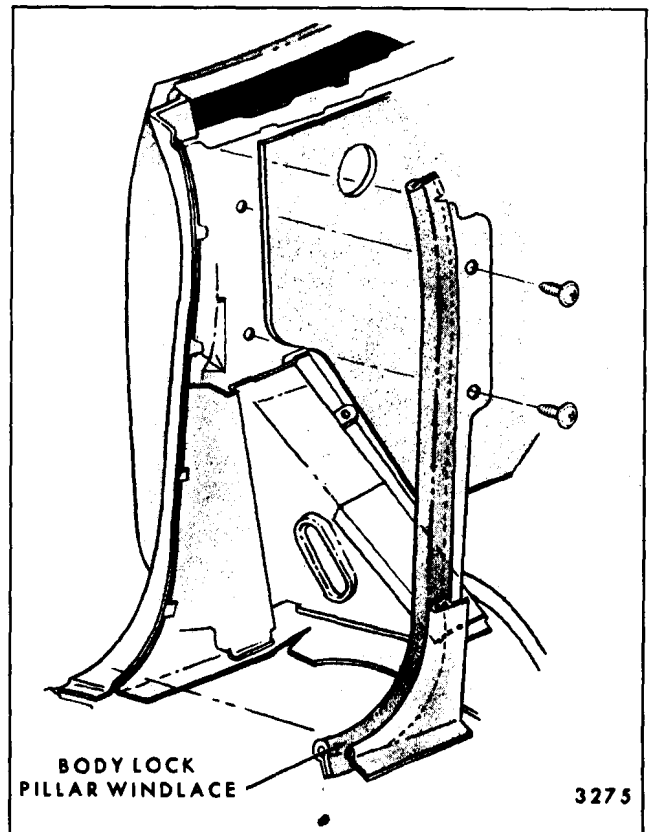

Fig. 13-29-Body Lock Pillar Windlace - "A" Styles
2. On "A" styles, remove windlace attaching screws (Fig. 13-29) and remove windlace. The windlace is sewn to a foundation board and is installed as a separate assembly.